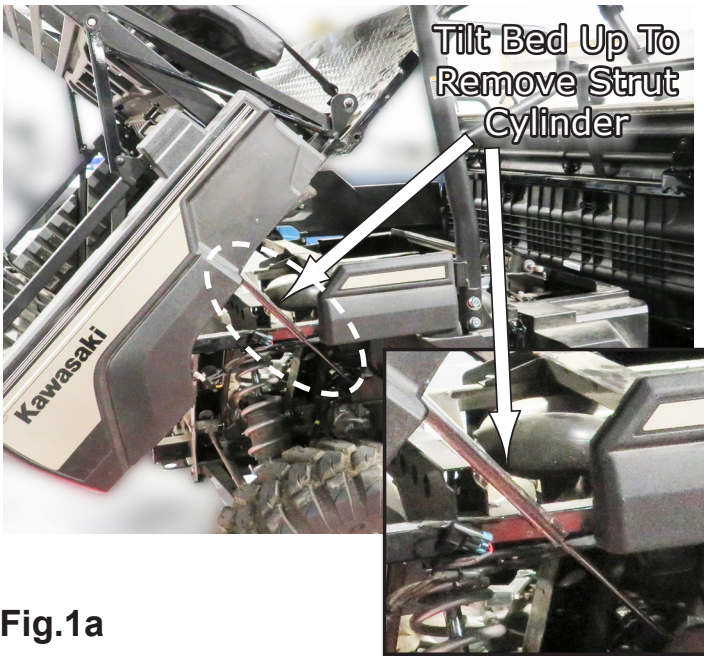
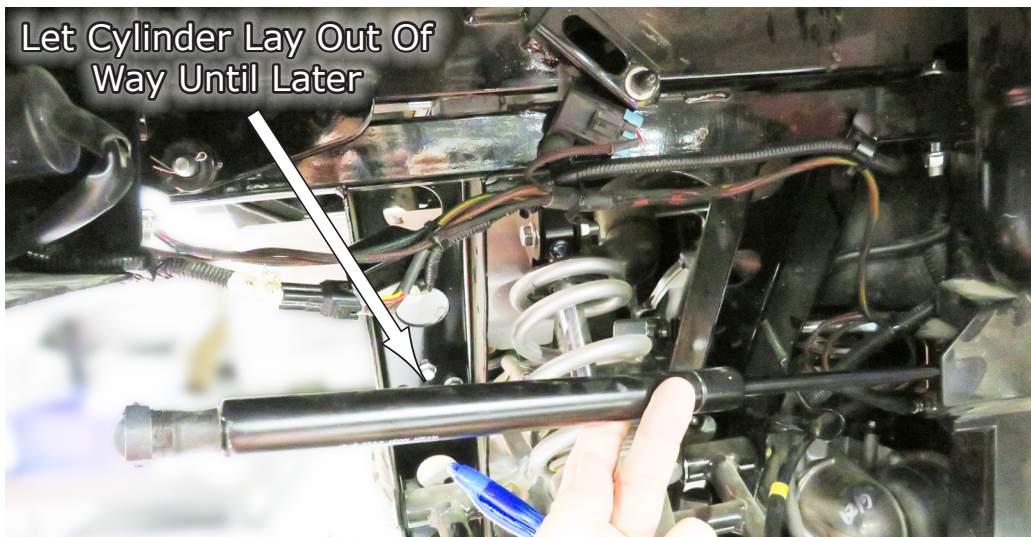

Fig.1a
Fig.1c
1.First, you need to tilt the bed in the upright position as you will need to remove the strut cylinder underneath. See Fig.1a-b. Remove the hardware retaining the top end of the cylinder and set aside to reinstall later. Then set bed back down and let **Cylinder** lay out of the way as shown in **Fig.1c**.